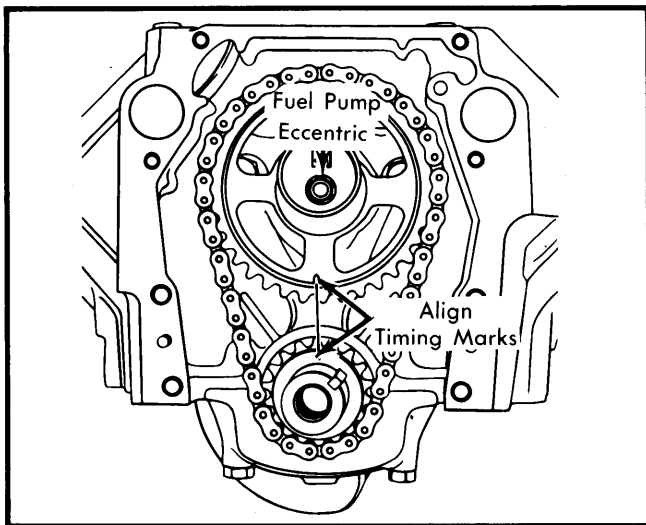

Fig. 9 Timing Chain Sprocket Alignment
**Installation** — 1) Position crankshaft so keyway points halfway between 1 o'clock and 2 o'clock positions. Install timing chain and sprockets together and align timing marks. See Fig. 9.